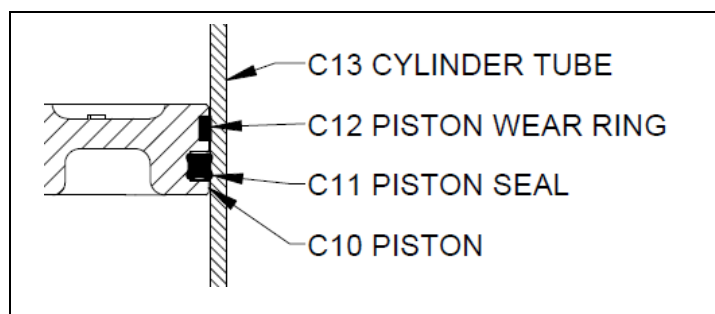

Figure 5 – Piston Seal
5. Remove the Cylinder Tube (C13), Piston Seal (C11) and Piston Wear Ring (C12). Clean the parts and the grooves in the Piston (C10). See Figure 5.